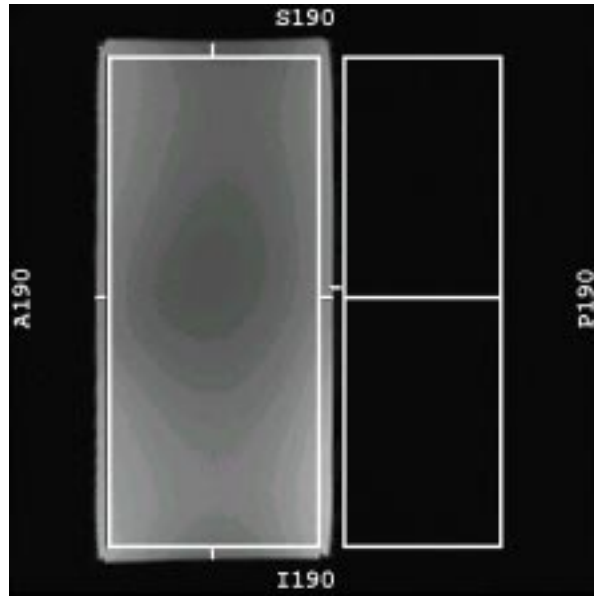

Figure 14: Positioning noise region of interest.
- Step 7 -- Create a rectangular ROI that touches the ends of the 100mm line and is about the same inferior-to-superior length as the signal ROI as shown in *Figure 14*.